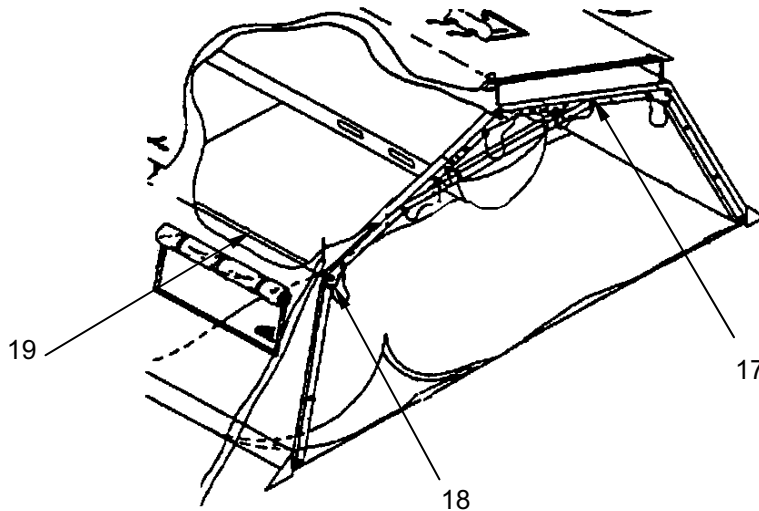

Figure 5. Lowering the Frame.
1. Place two soldiers at each arch (**Figure 5, Item 17**) on side of tent being lowered.
2. On command, remove quick release pins (**Figure 5, Item 18**) holding arches erect.
3. Keeping clear of tent section, place one hand below eave joint of arch (**Figure 5, Item 17**) and one on the eave purlin (**Figure 5, Item 19**).